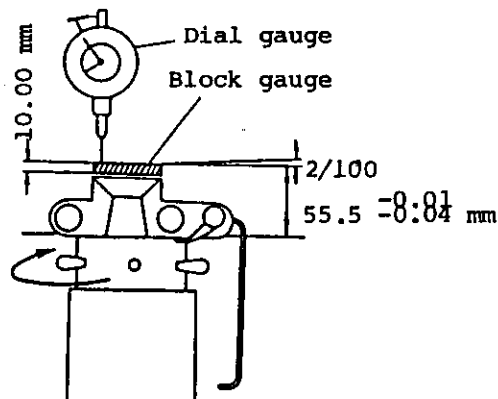

Fig. V-2
- a. Place the camera on a dial gauge (T2-202) and insert a block gauge between the camera and dial gauge. Rotate the camera. See Fig. V-2.